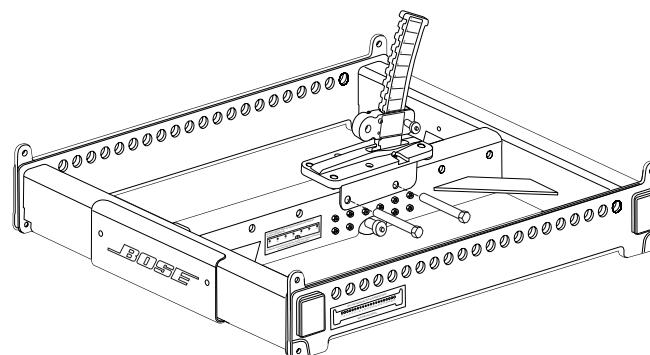

Fig. 6. Ground Stack Bracket on array frame.
1. Attach the leveling feet to the bottom of the frame; see Fig. 6. Fully tighten each screw to ensure the feet are level.